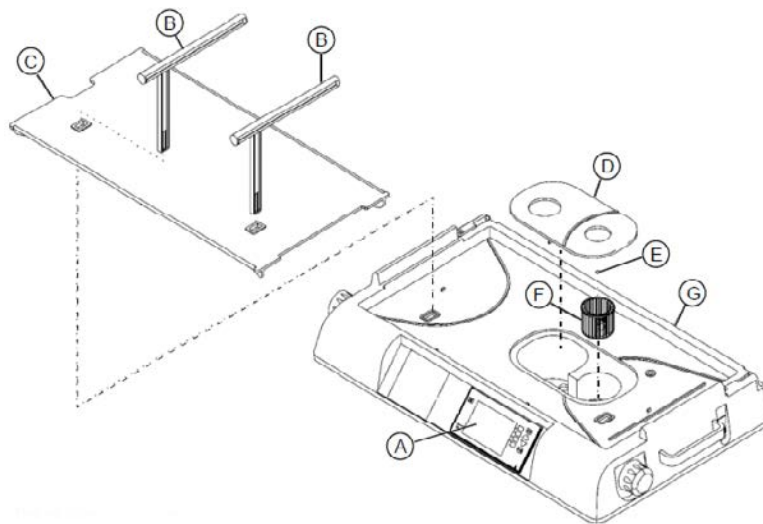

Fig. 65 Impeller Assembly
- 11 Pull the two mattress tilt bars (Fig. 65/B) up through the main deck (Fig. 65/C), and remove them from the unit.
- 12 Remove the main deck (Fig. 65/C) from the unit.
- 13 Remove the heater/impeller cover (Fig. 65/D) from the unit.
- 14 Using pliers, remove the wire hose clamp (Fig. 65/E) (if present) that secures the impeller assembly (Fig. 65/F) to the upper shell assembly (Fig. 65/G).
- 15 Remove the impeller assembly (Fig. 65/F) from the upper shell assembly (Fig. 65/G).